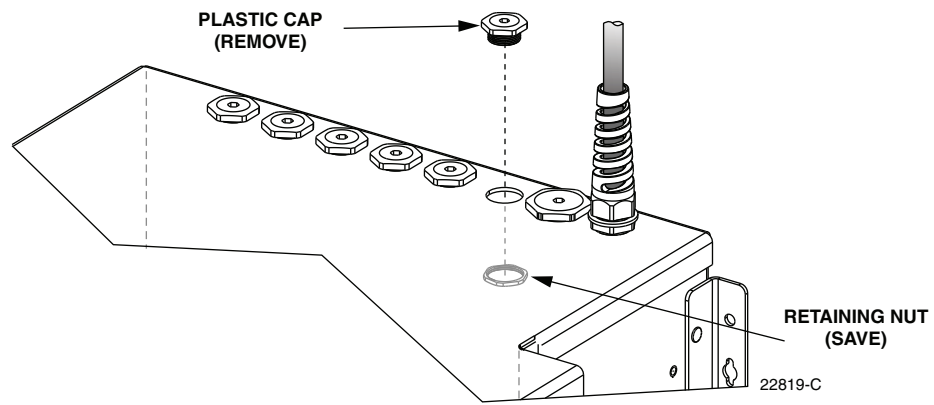

Figure 47. Plastic Cap Removal
3. Remove the plastic cap and retaining nut from the selected distribution cable entry/exit hole as shown in Figure 47. Save the retaining nut for reuse.